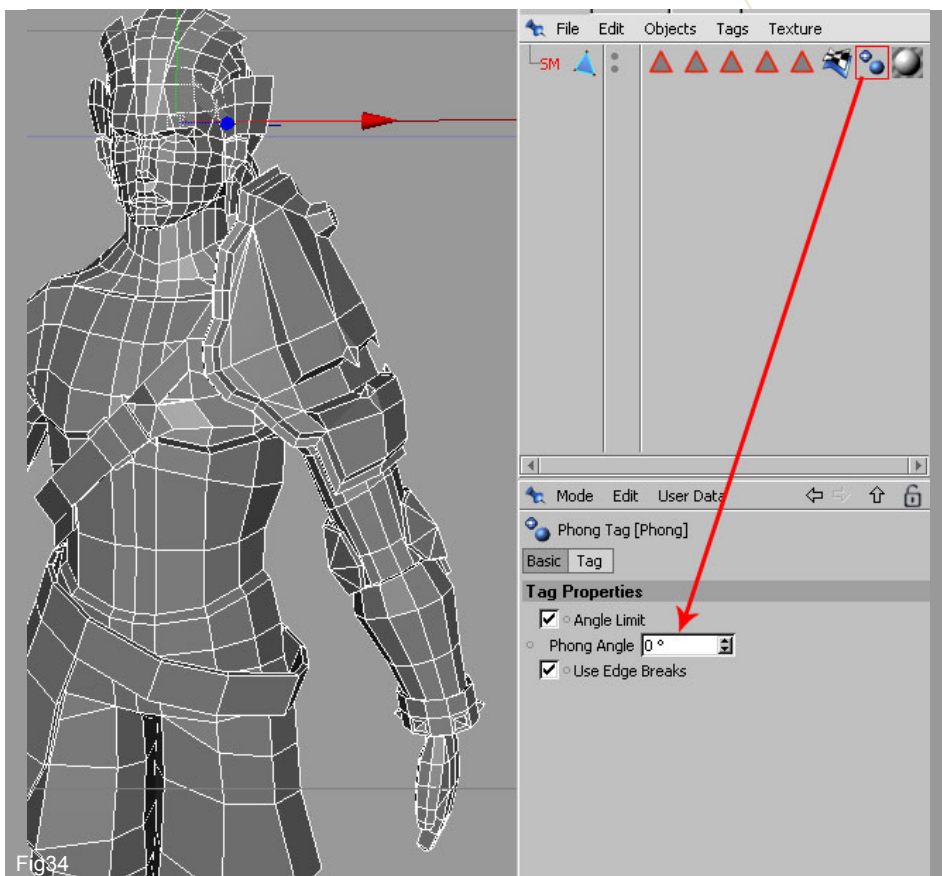

Fig34
34. You should now have two templates that between them represent the entire character. Before we begin texturing there is one final thing to do. You will have noticed throughout the tutorials so far that the geometry has looked very angular with numerous hard edges. Fig34